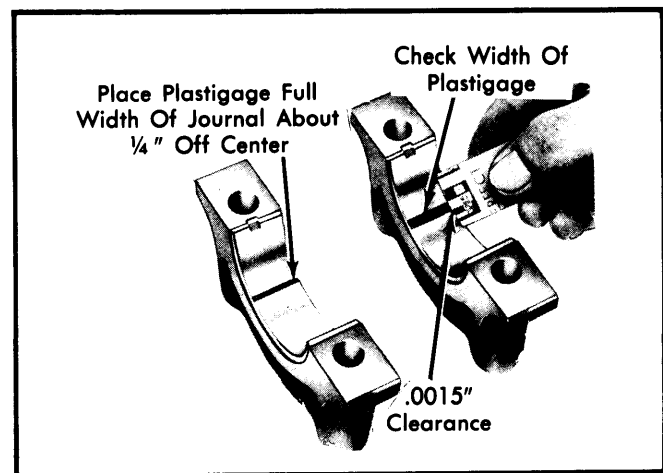

Fig. 9 Using Plastigage to Check Bearing Clearance
**Installation** — 1) Determine crankshaft journal clearance in bearing using Plastigage method. Place a jack under counterweight adjoining bearing being checked so weight of crankshaft will not compress Plastigage and provide an erroneous reading. See Fig. 9.